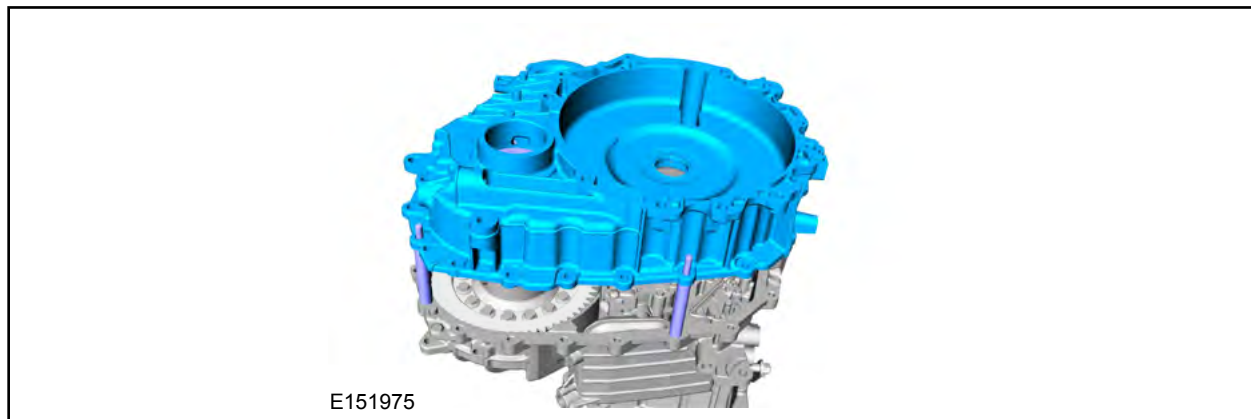

FIGURE 24
19. Install the damper housing on the special tools. See Figure 24.